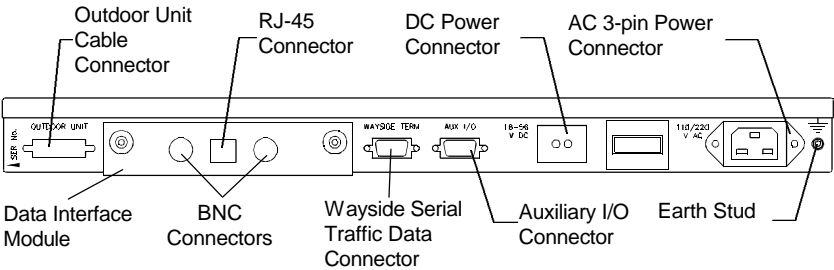

Figure 8. Indoor Unit Rear Panel.
Follow these steps to install the IU. See Figure 8.
3.	Connect the other end of the interconnection cable to the Outdoor Unit connector on the IU rear panel (see Figure 8).